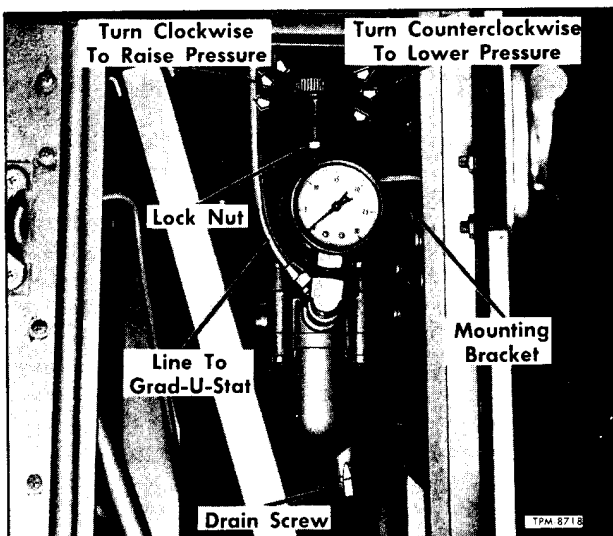
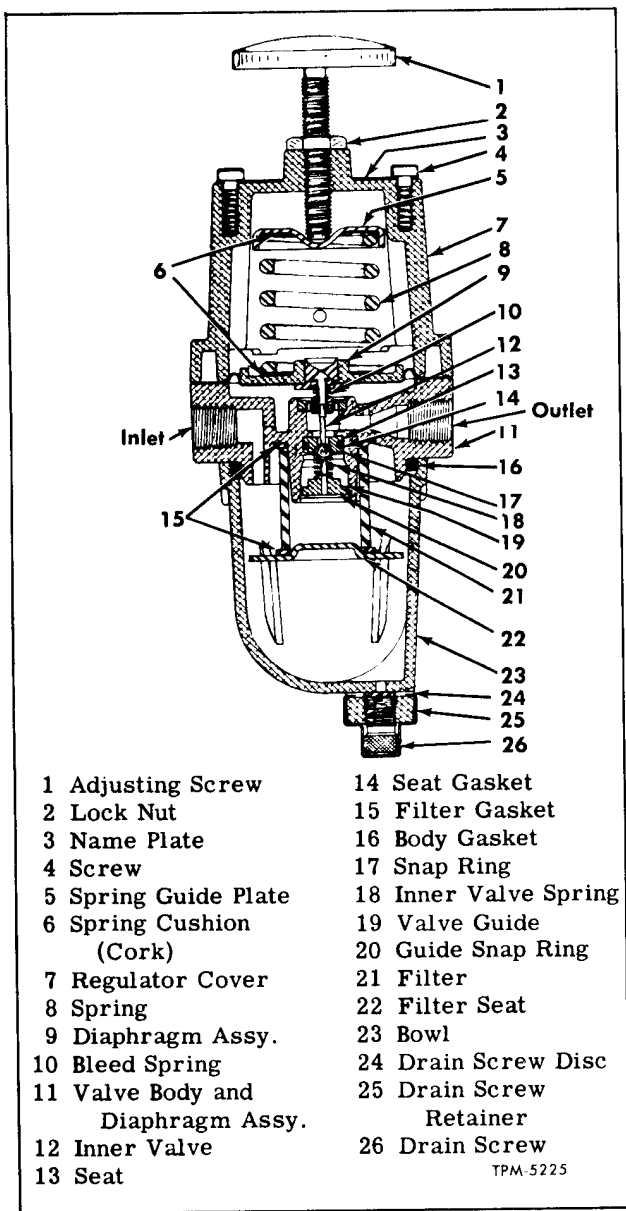

Figure 38—Air Pressure Regulator Valve Installed
Figure 40—Air Pressure Regulator Valve Assembly (Standard Controls)
1. Shut off air supply to Grad-U-Stat at pressure regulator valve located at front of underfloor heating compartment (fig. 38). Turn regulator screw completely counterclockwise to shut off air.
1. Shut off air supply to Grad-U-Stat at regulator valve (fig. 38) by turning regulator screw completely counterclockwise.
Air pressure regulator valve (fig. 40) is mounted on bulkhead at front of underfloor heating and cooling compartment (fig. 38). Valve is accessible after opening inner front closure door. Valve serves two purposes, to strain the air of dirt and moisture and to regulate air pressure to Grad-U-Stat. As the Grad-U-Stat uses the compressed air, the regulator valve admits additional compressed air, thus maintaining a constant pressure at Grad-U-Stat. Air pressure at Grad-U-Stat should be 17 lbs.
Should there be a constant bleeding of air through vent hole in the regulator cover (7, fig. 40), the inner valve assembly should be checked. Foreign matter may be lodged in valve seat or the valve may be worn.
ADJUSTMENT (Refer to Fig. 38)
Drain regulator valve at regulator intervals to expell collected moisture by turning out drain screw (fig. 38) at bottom of valve.
NOTE: Key numbers in text refer to figure 40.